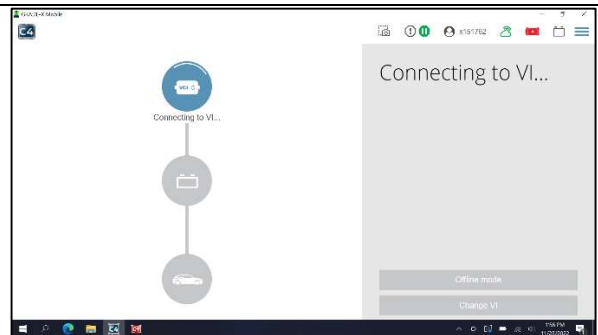
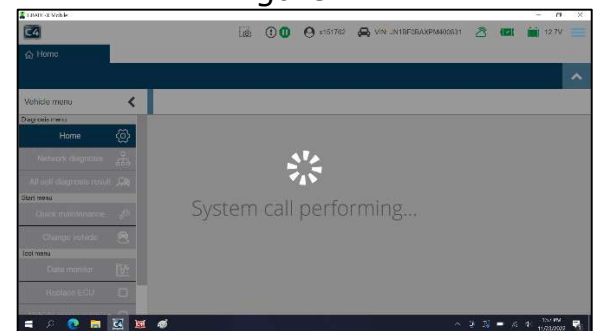

Figure 24
Figure 25
23. Allow C4 to connect to VI3 and perform vehicle system call. (Figure 24 and Figure 25)